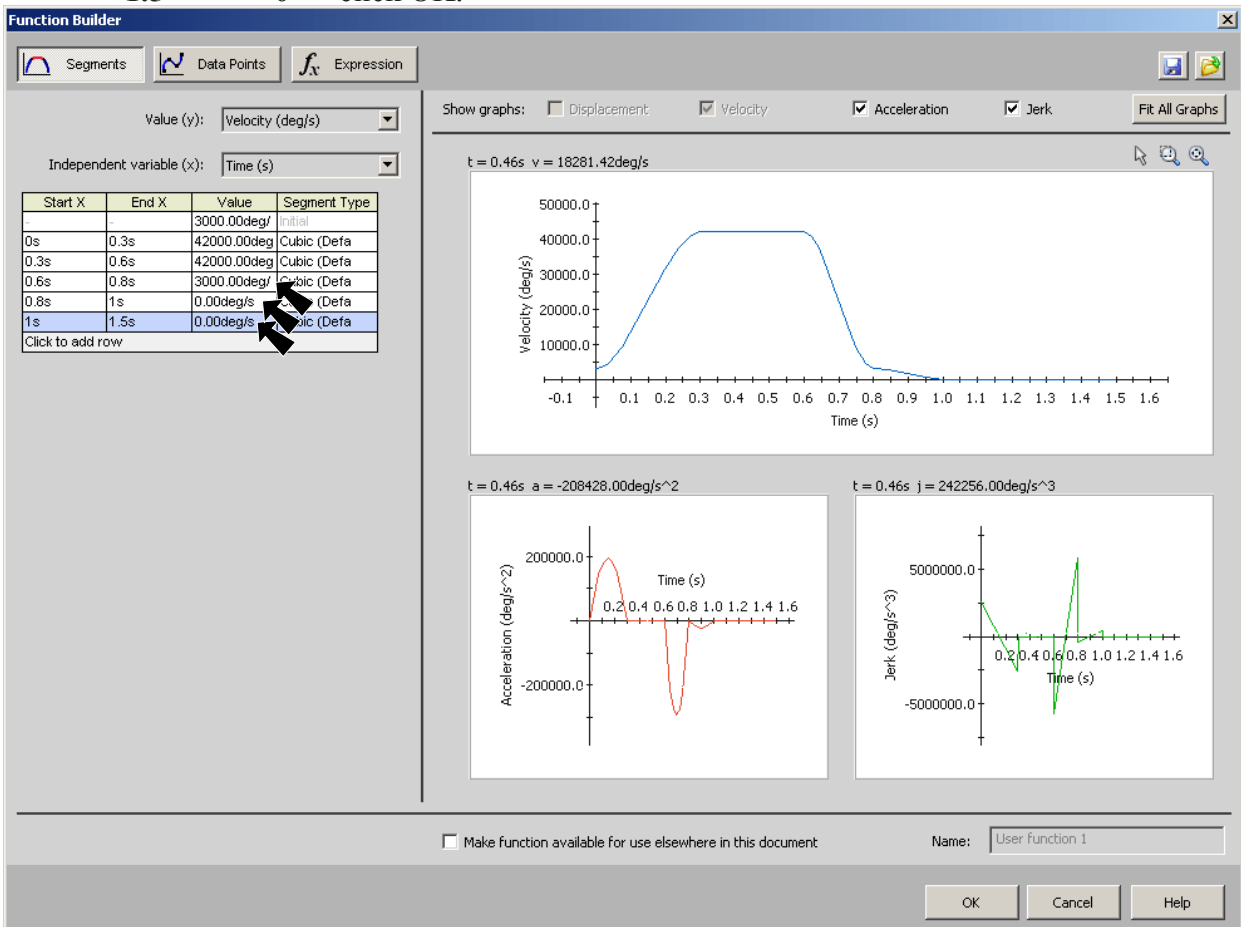

Fig. 10
Step 7. In the Segments chart add 3 more Rows as shown in **Fig. 10**